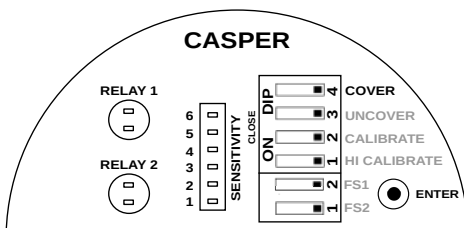

Figure 10: Saving Cover Delay
- Delay is entered, but not saved. To save and test the Cover Delay, set the COVER switch back to OPEN position as shown in Figure 10. The STATUS LED of Relay 1 will come back to its original position.